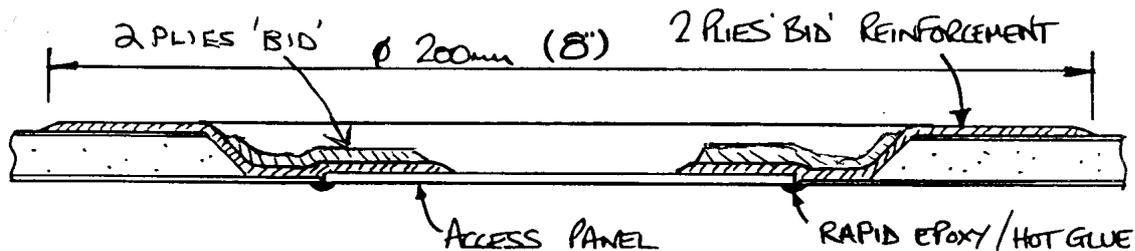

Fig 6. Reinforcement.
6. Lay-up reinforcement plies of 2 plies of 'bid', the second ply being at 45° to the first, around the hole. These plies should lap onto the access panel by about 20 - 30 mm (0.8 - 1.2") and be about 20 cm (8") in diameter - (figure 6). Also layup a further 2 plies of 'bid' as extra flange reinforcement.